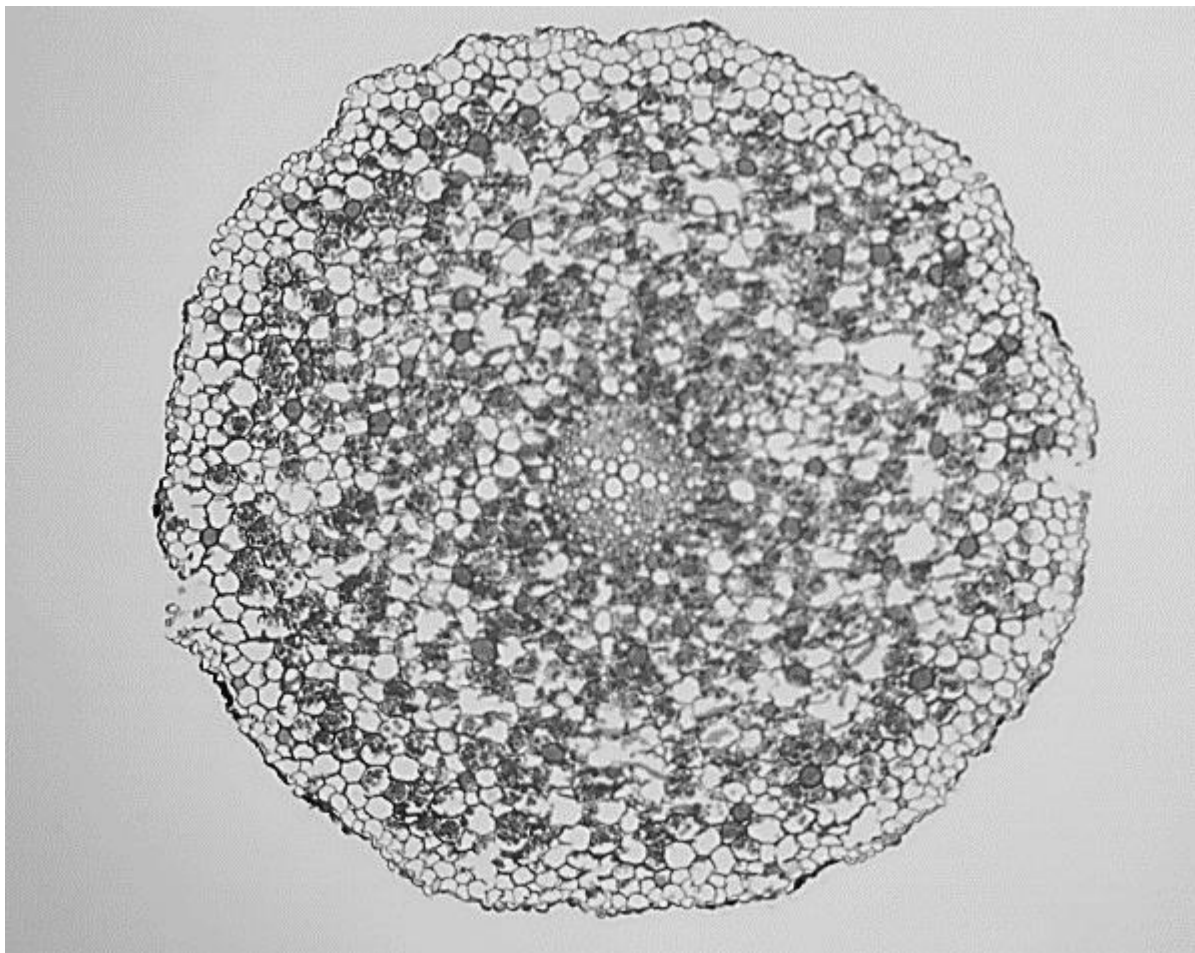
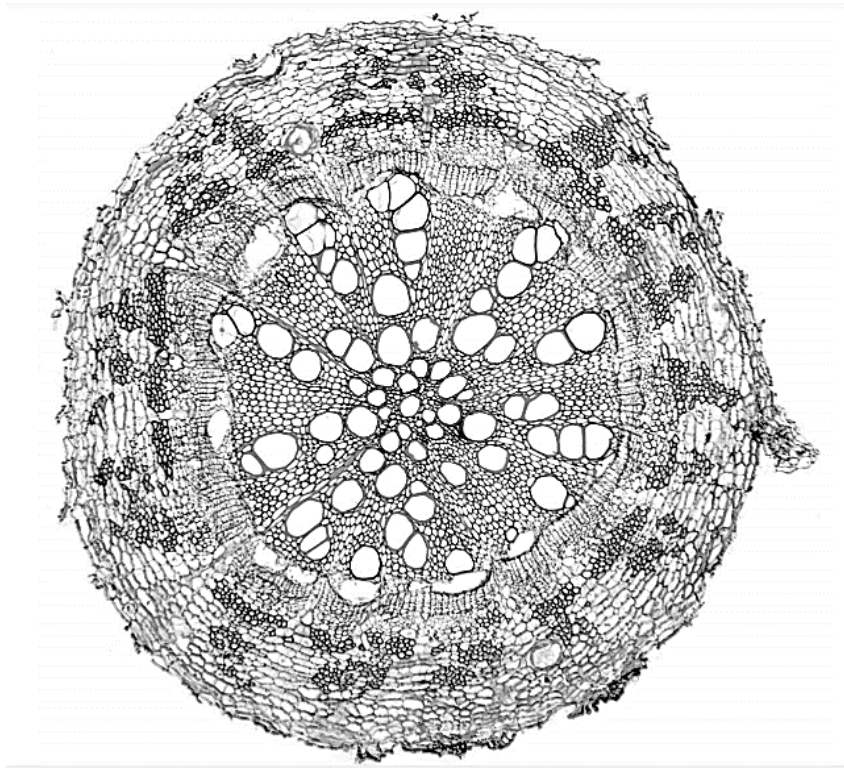
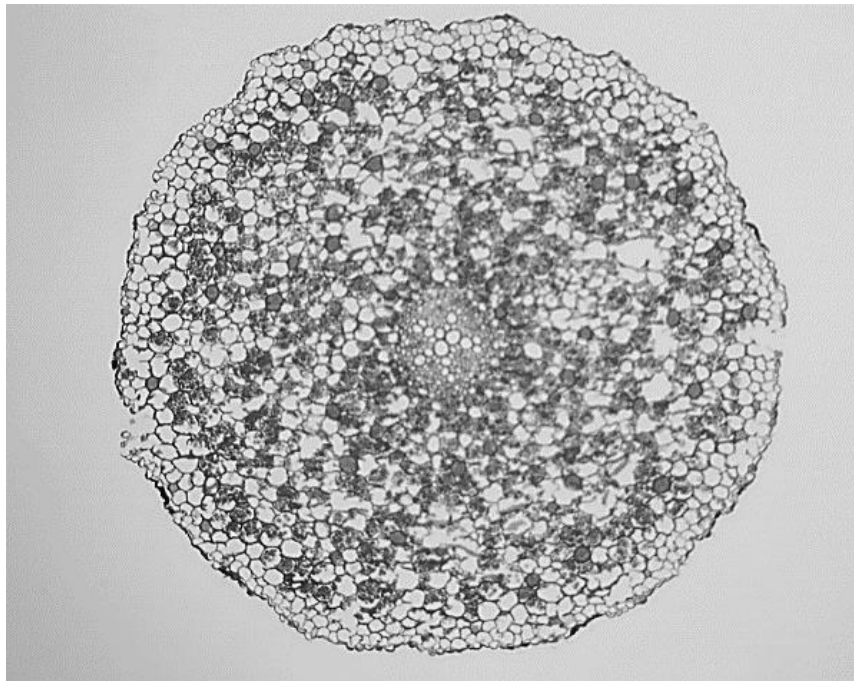

Fig. 2.4
Fig. 2.5
Fig. 2.6
- (c) Fig. 2.4 is a photomicrograph of a transverse section of a plant root containing starch grains. The section has been stained with iodine solution.
Draw a large plan diagram of the transverse section of the whole root shown in Fig. 2.4.
- (d) Fig. 2.5 is a photomicrograph of a stained transverse section through a root of a different type of plant.
Fig. 2.6 is a photomicrograph of the same root section that is shown in Fig. 2.4.
Prepare an appropriate table so that it is suitable for you to record the observable differences between the root in Fig. 2.5 and the root in Fig. 2.6.